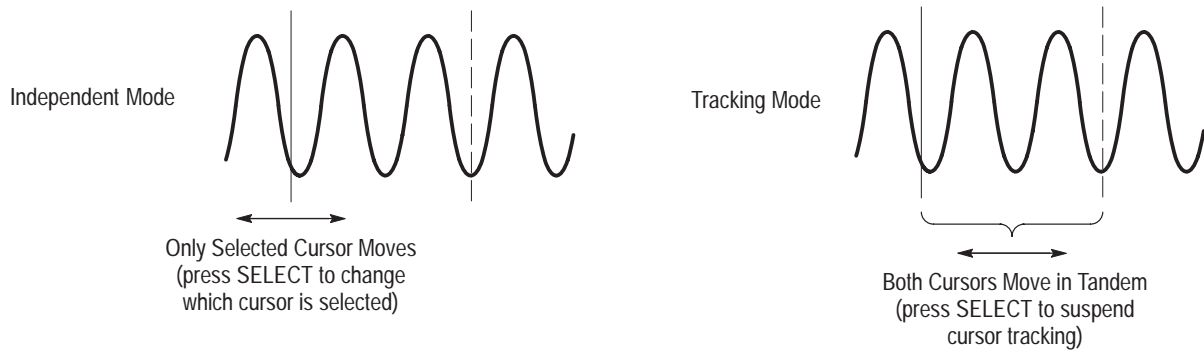

Figure 3-63: Cursor Modes
**Cursor Modes** There are two cursor modes: *independent* and *tracking* (see Figure 3-63).